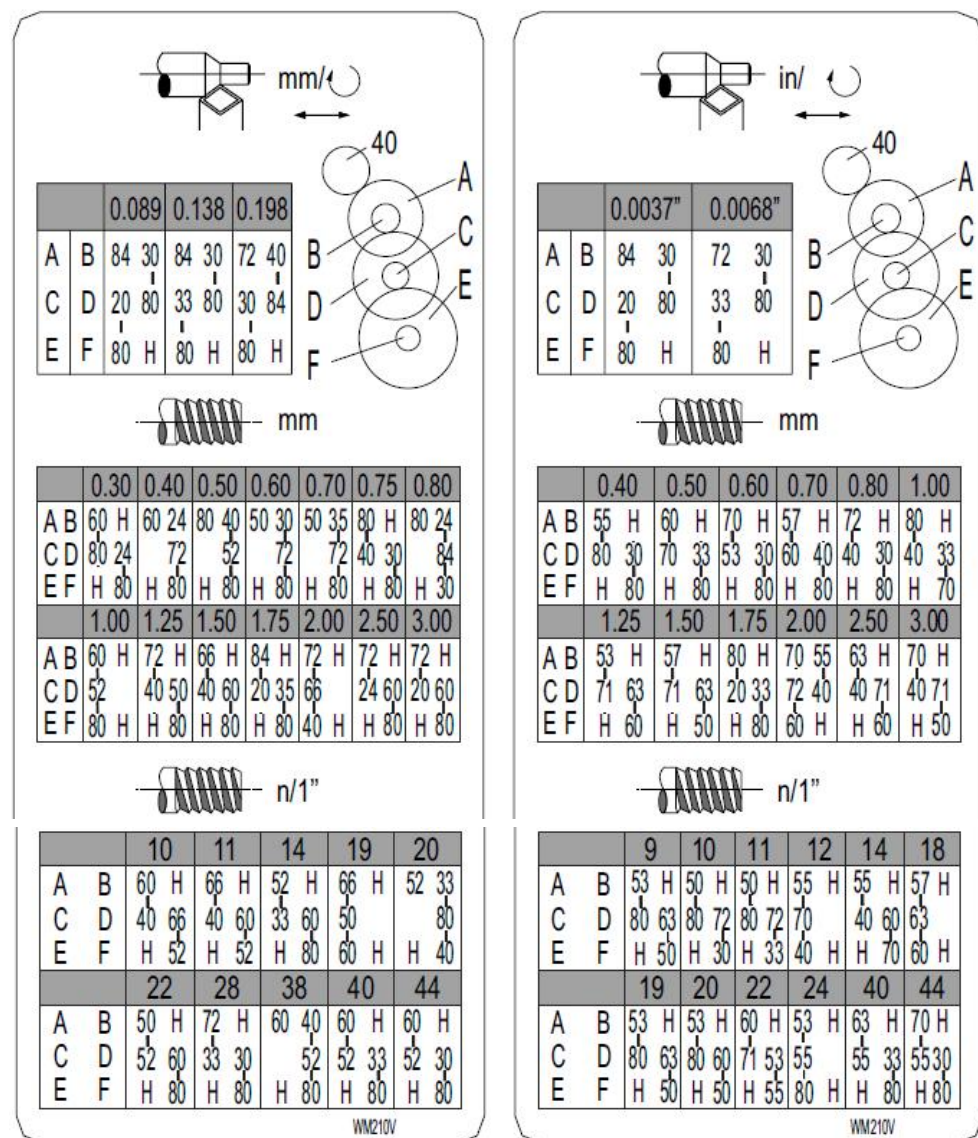

Fig. 20
6. Install the gear couples according to the thread and feed table (Fig.20) and screw the gearwheels onto the quadrant again.
Pitch plate(Fig. 20)
Set the machine up to the desired thread pitch (according to the threading chart, Fig.20). Start the machine and engage the half nut. When the tool reaches the part, it will cut the initial threading pass. When the tool reaches the end of the cut, stop the machine by turning the motor off and at the same time back the tool out of the part so that it clears the thread. Do not disengage the half nut lever. Reverse the motor direction to allow the cutting tool to traverse back to the starting point. Repeat these steps until you have obtained the desired results.